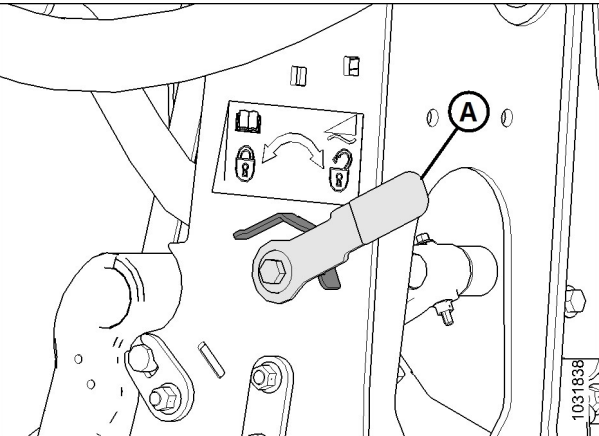

Figure 3: Float Unlocked – Left Side Shown
- b. On the side that you are adjusting, move spring handle (A) to the lower (UNLOCK) position. Keep the opposite wing locked. You should hear the lock disengage. If not, use tool (B) to rotate the mechanism so that the lock disengages.
- c. On both sides of the float module, place the header float locks (shown in Figure 3) in the locked position.